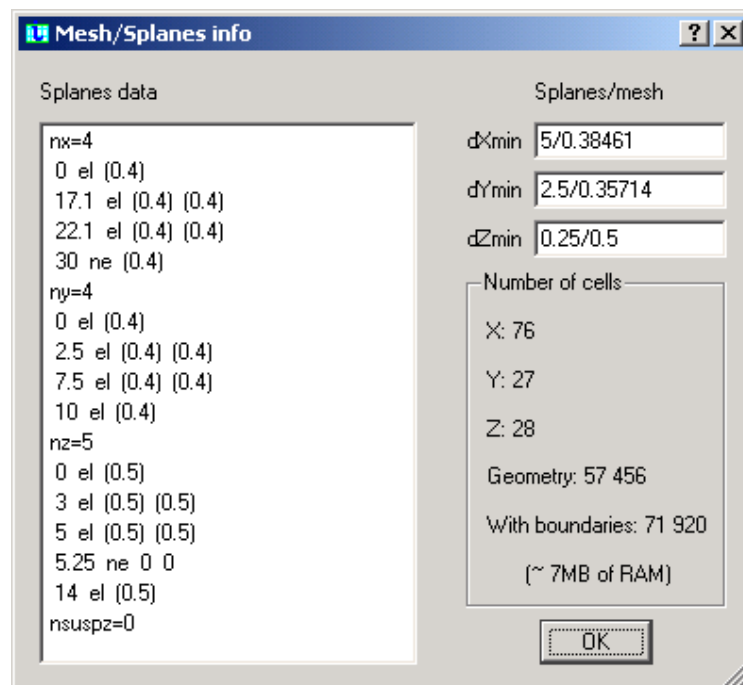

Fig.E 2.2.1-10 Mesh /Splanes info dialogue window.
- o *Splanes info* permits to see the list of all *mesh snapping planes* (also called *Special planes*) created in the *project*. The window of Fig.E 2.2.1-10 appears. The same window can be invoked using *Info-Mesh* command. On the left hand side of this window we can see all the *special planes*, which may have been created in the following ways: